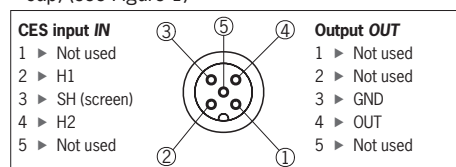

Figure 1: Socket assignment (view of connection side)
- ▶ Connect the CES or CEM/CET read head to the CES input *IN* (M12 socket 5-pin) (see Figure 1)
- ▶ Connect the solenoid on the CEM/CET read head to the output *OUT* (M12 socket 5-pin with sealing cap) (see Figure 1)